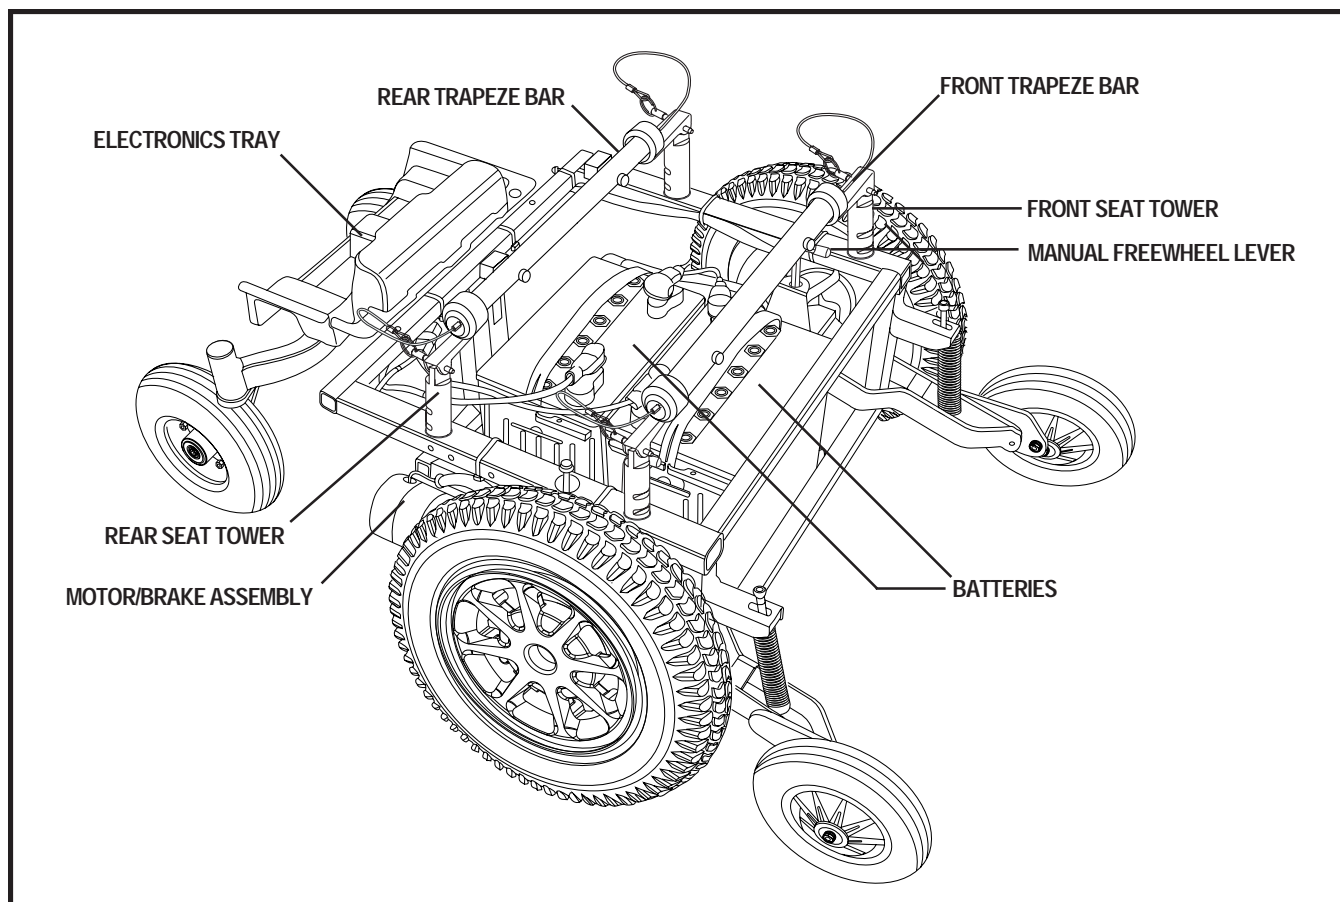

Figure 6. Jazzy 1170XL Power Base (Shroud Removed)
The electronics tray is located on the back of the power base. See figures 6 and 7. The ammeter, the charger power lead, the main circuit breaker, the controller connector, and the charger inhibit connector are all located on the electronics tray.
2. Tilt the seat back and slide the rear extrusion onto the rear trapeze bar. See figures 6 and 15.
5. Plug the controller cable into the connector on the electronics tray. See figure 6.